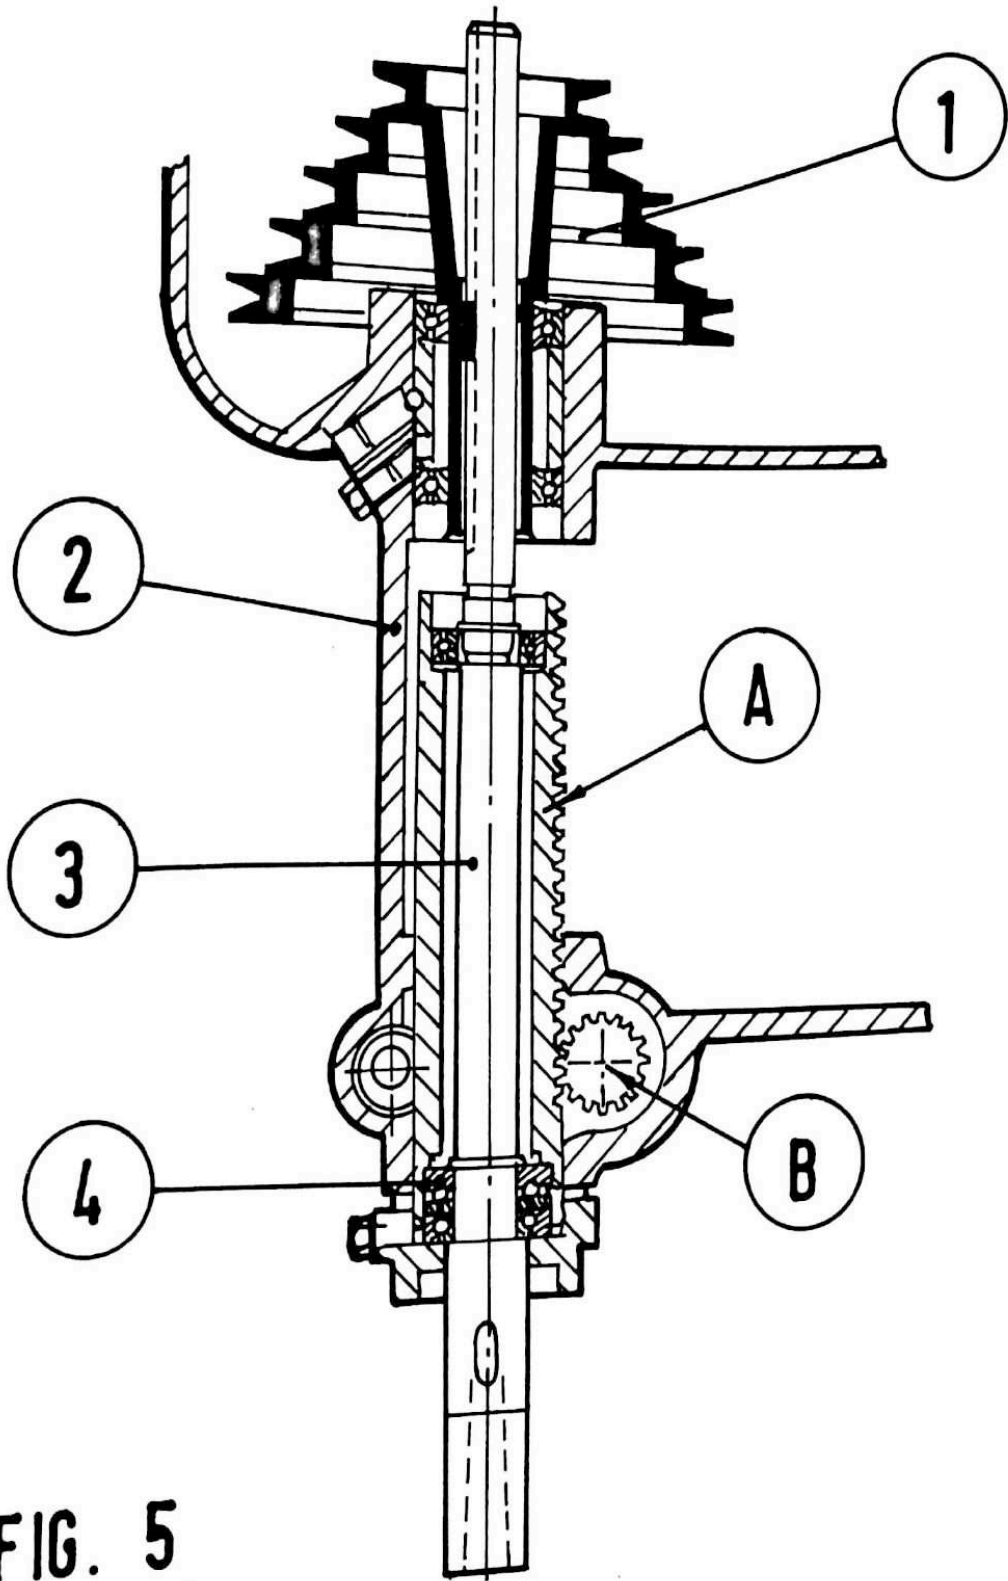

FIG. 5
- (b) (i) Identify the assembly shown in Fig. 5.